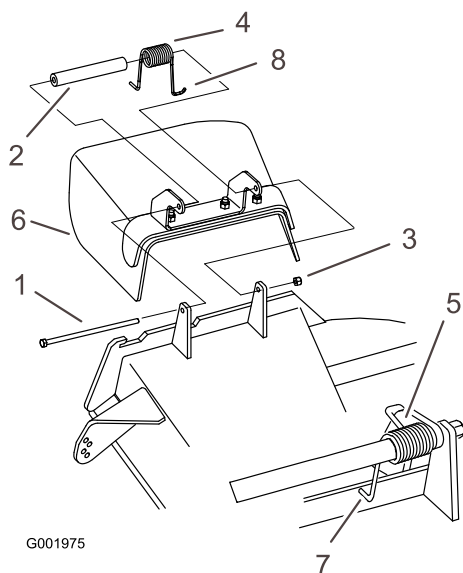

Figure 72
1. Remove the locknut, bolt, spring and spacer holding the deflector to the pivot brackets (Figure 72). Remove damaged or worn grass deflector.
Note: Make sure the **L** end of spring is installed behind deck edge before installing the bolt as shown in Figure 72.
3. Install bolt and nut. Place the **J** hook end of spring around grass deflector (Figure 72).